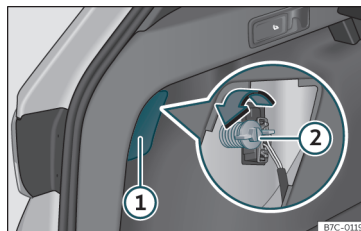

Fig. 91 Boot: access to the bolt securing the tail light unit.
3. Remove the lid, levering it with the flat side of a screwdriver into the recess >>> **Fig. 91 ①**.
5. Unscrew the light securing bolt by hand or using a screwdriver >>> **Fig. 91 ②**.